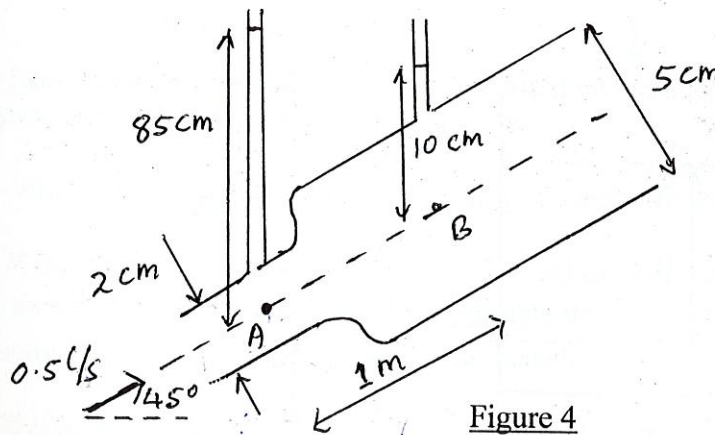

Figure 4
4) A pipe has a circular cross-section and is inclined at  $45^\circ$  to the horizontal, as shown in Figure 4. The diameter of the pipe changes from 2 cm at A to 5 cm at B, as shown in the figure. The distance between A and B is 1 m. Water flows up the pipe, in the direction AB, at a discharge of 0.5 litres/s.